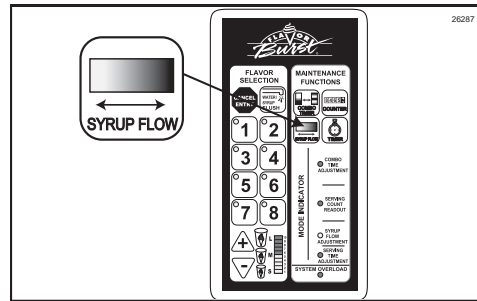

Figure 187
- Press the SYRUP FLOW key to exit the mode and lock in the syrup levels. (See Figure 187.)